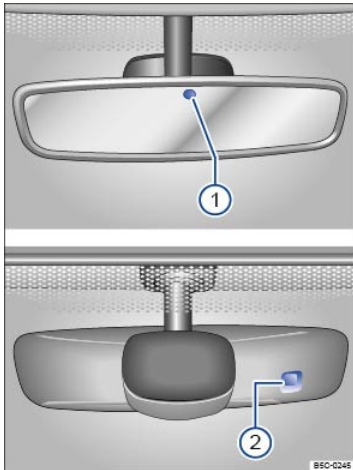

Fig. 87 Self-dimming rearview mirror (if equipped).
- One sensor on the side facing the interior to measure light from *the rear* of the vehicle ⇒ Fig. 87 ①.
- One sensor on the side facing the windshield to measure light from *the front* of the vehicle ⇒ Fig. 87 ②.